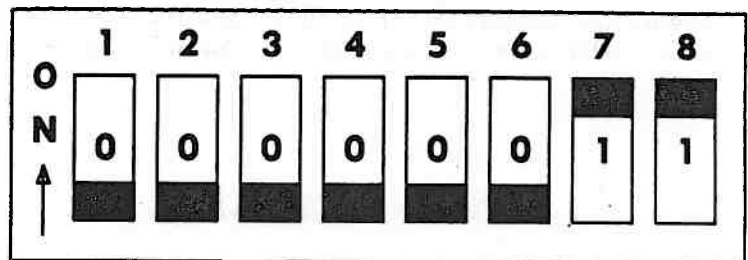

Figure 3-33. DTC Hard Disk Controller DIP Switch Settings for 10-MB Hard Disk
13. The switch settings for a 10-MB disk are shown in Figure 3-33.